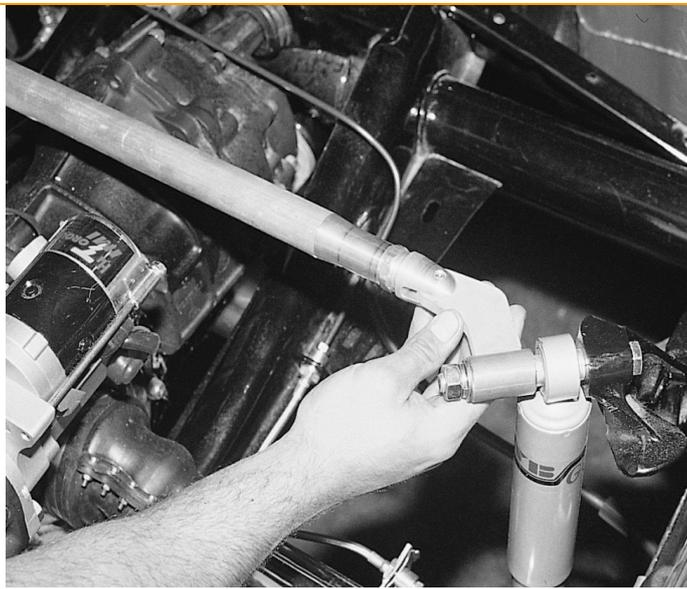

Fig.3
- The position shown on picture Fig.3 is an example only and is not applicable on all engine/transmission models. Take your time and find the optimum position for your application.